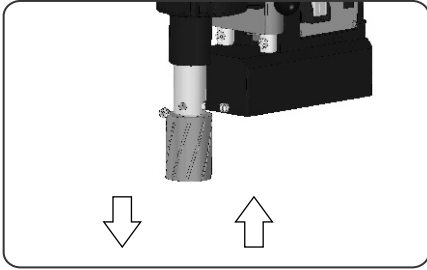

Fig. No. 4
- C. Insert cutter into drill spindle with the two flats of the cutter aligned with grub screws (Fig No.4 & 5). Make sure the center pin is inserted into the cutter.